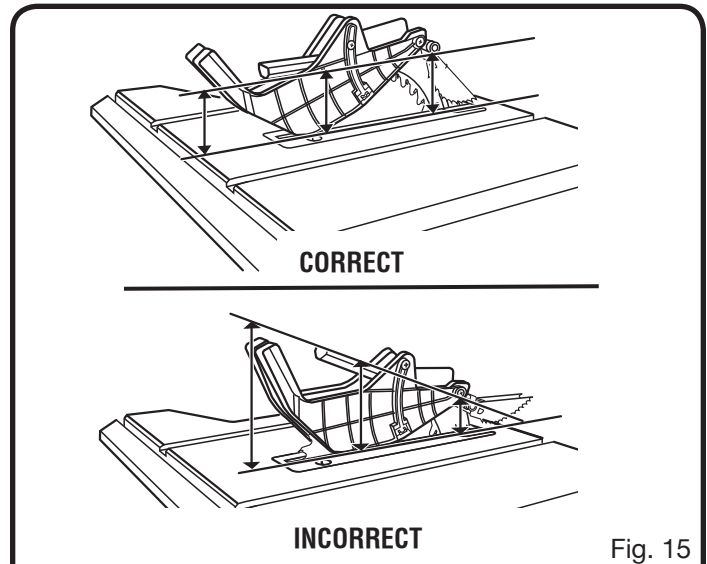

Fig. 15
- With the front of the blade guard raised, lower the back of the guard into the middle hole of the riving knife. Push the front of the guard down until it is **parallel to the table** (see figure 15). If the blade guard is not parallel to the table, the riving knife is not in the “up” position.